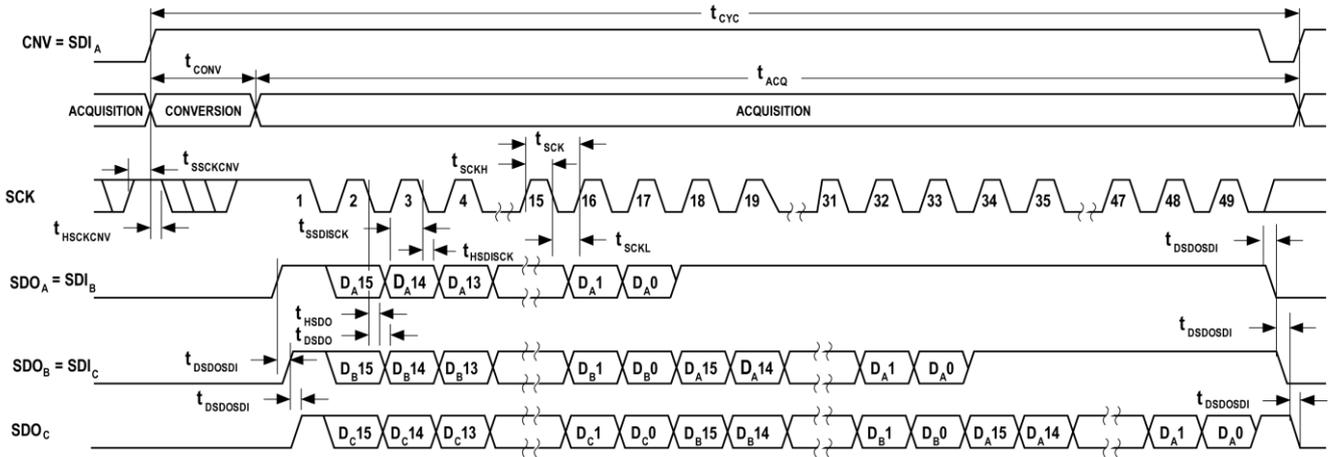

Figure 47. Chain Mode (with Busy Indication) Serial Interface Timing
- In chain mode, SCK is high during the rising edge of CNV (see Figure 47).